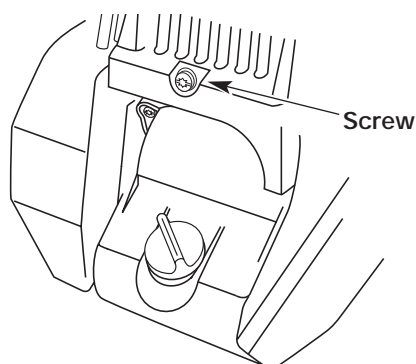

Fig. 69
3. Remove the screw behind the engine cover (Fig. 69).